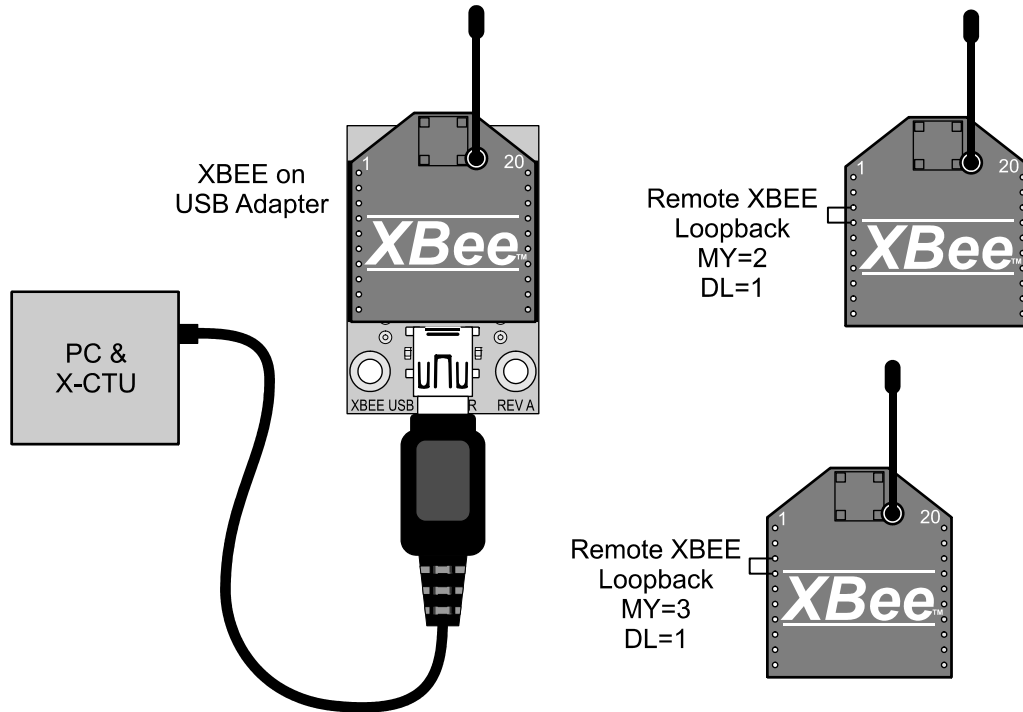

Figure 3-10: Multi-Node Addressing Test
Remote XBee modules may be manually configured for different addresses. If you have multiple Remote XBee modules, you can set them up for loopback and the addressing scheme shown in Figure 3-10.
- ✓ Read and modify **MY** and **DL** addresses as shown in Figure 3-10 using Modem Configuration to ensure it is not temporary.